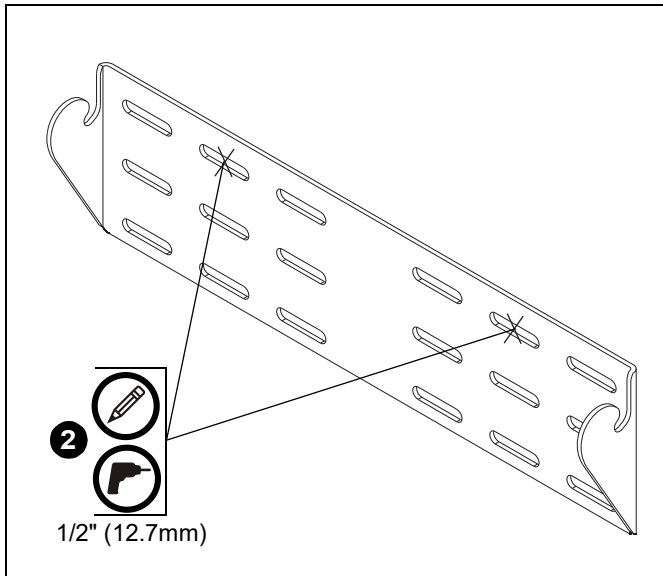

Figure 6
1. Position top wall bracket (B) on wall at desired mounting location. Use a level to ensure of an even mount. (See Figure 6)
2. Mark and drill four 1/2" (12.7mm) holes at the desired mounting locations. (See Figure 6)